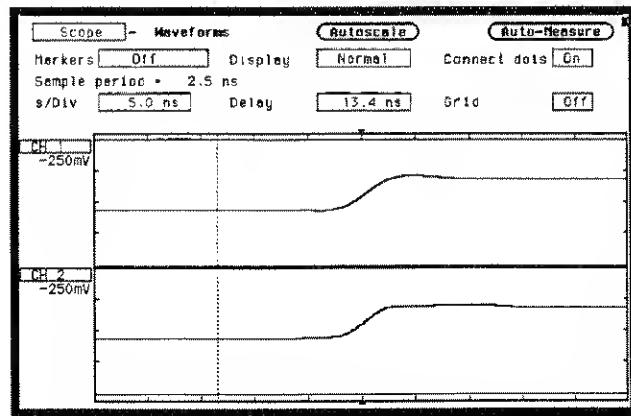

Figure 25-8. Rising Edge on Waveform
1. Select s/Div and change s/Div field to 5 ns to display a rising edge on the waveform. See figure 25-8.